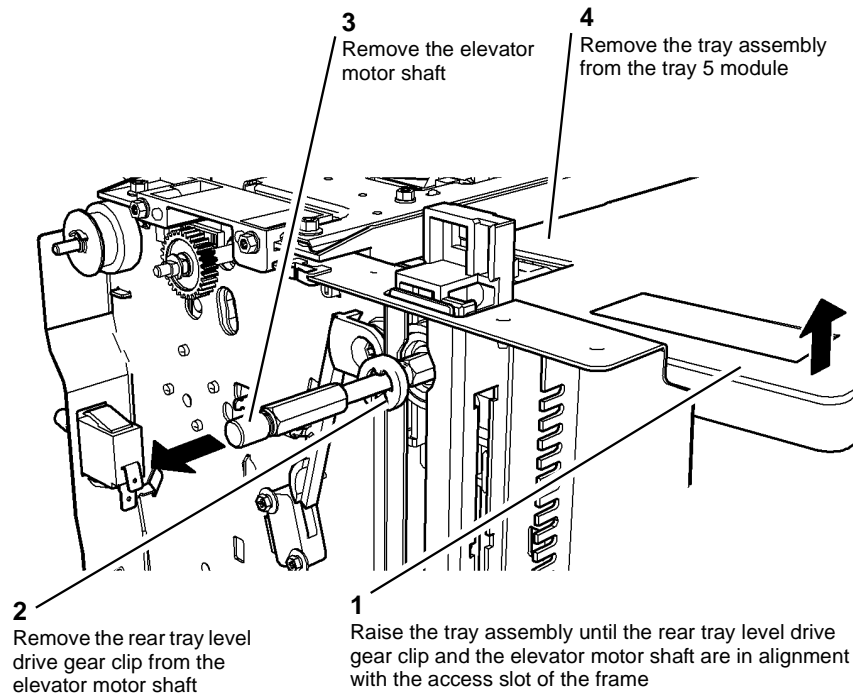

Figure 3 Tray assembly rear view
12. Remove the tray assembly, Figure 3.